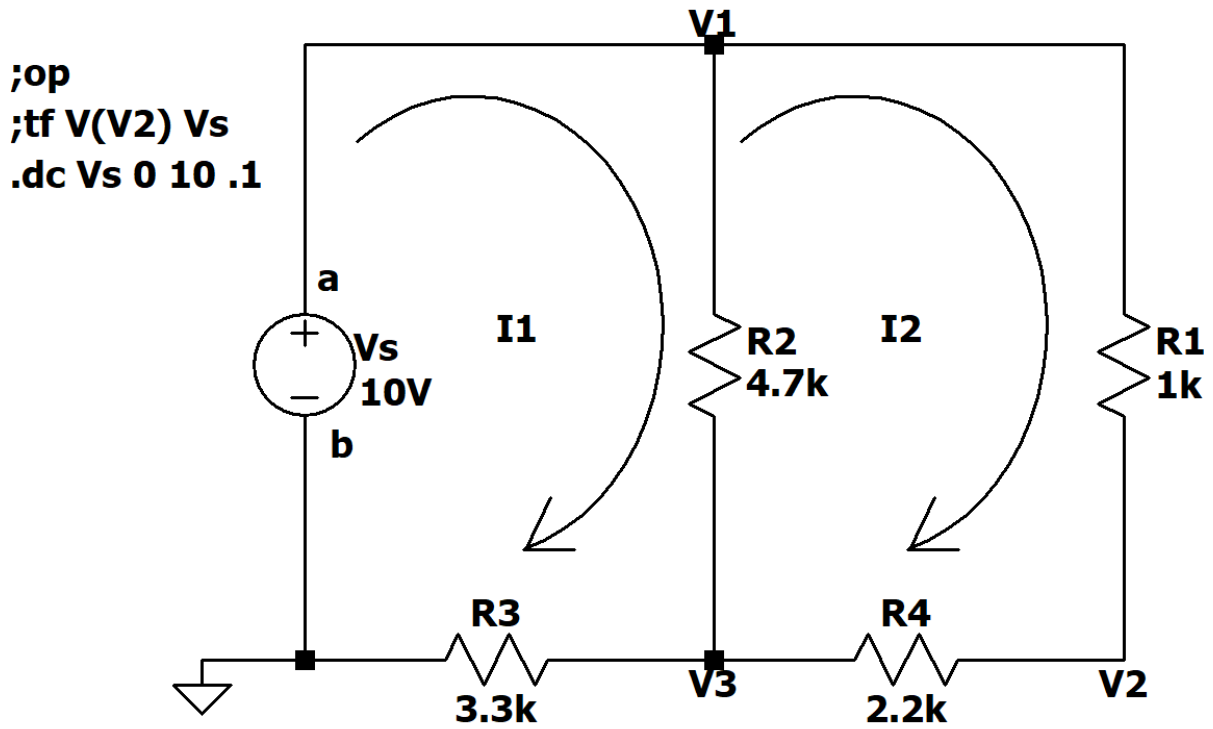

Figure 1. Resistive Circuit
1. Consider the circuit of Figure 1. Write nodal analysis equations for node voltages V_2 and V_3 . **Use symbolic voltage source and resistor values, e.g. V_s and R_1 (not 10V and 1k) in your equations.** Note you are given V_1 .
4. Consider the circuit of Figure 1. Write mesh analysis equations for mesh currents I_1 and I_2 . **Use symbolic voltage source and resistor values, e.g. V_s and R_1 (not 10V and 1k) in your equations.**
1. Construct the circuit of Figure 1 **without the voltage source**.